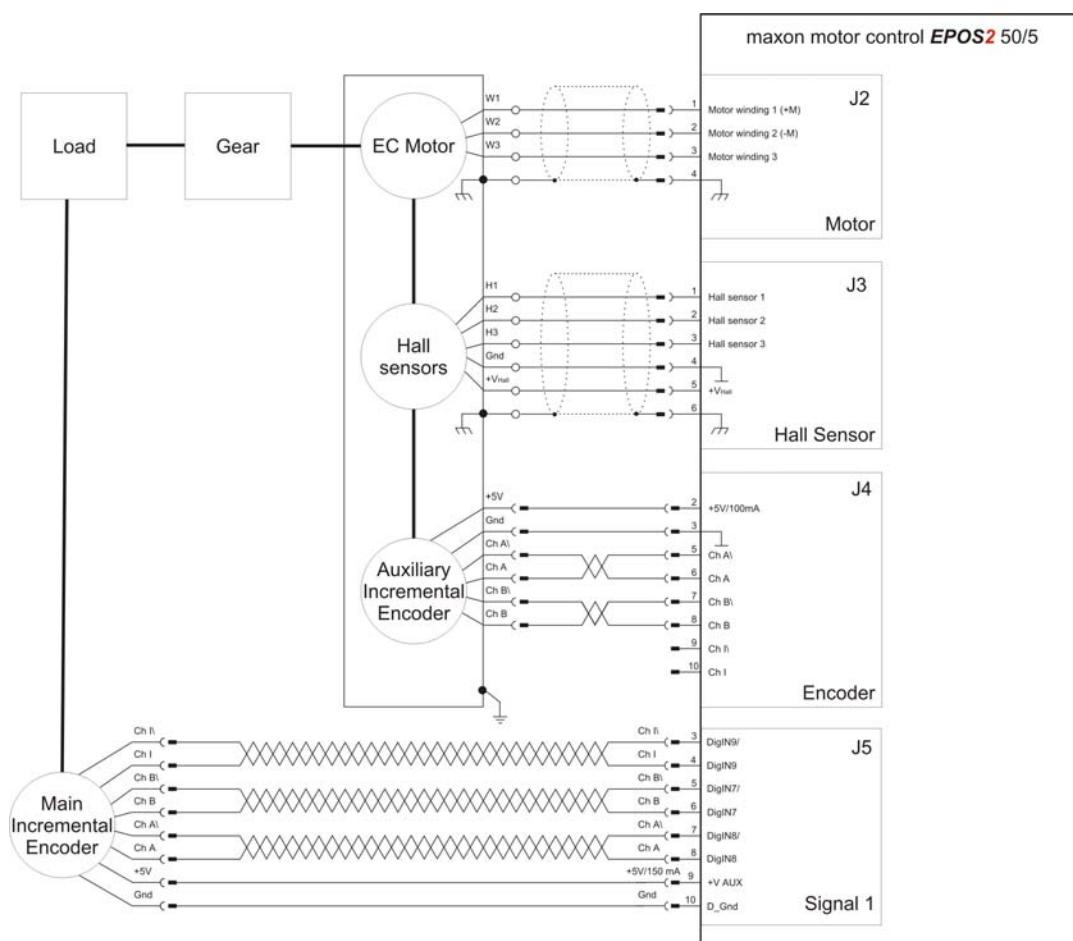

Figure 13-151 Example 2 – Wiring Diagram
- 1) Wire the system according to the wiring diagram (→Figure 13-151).